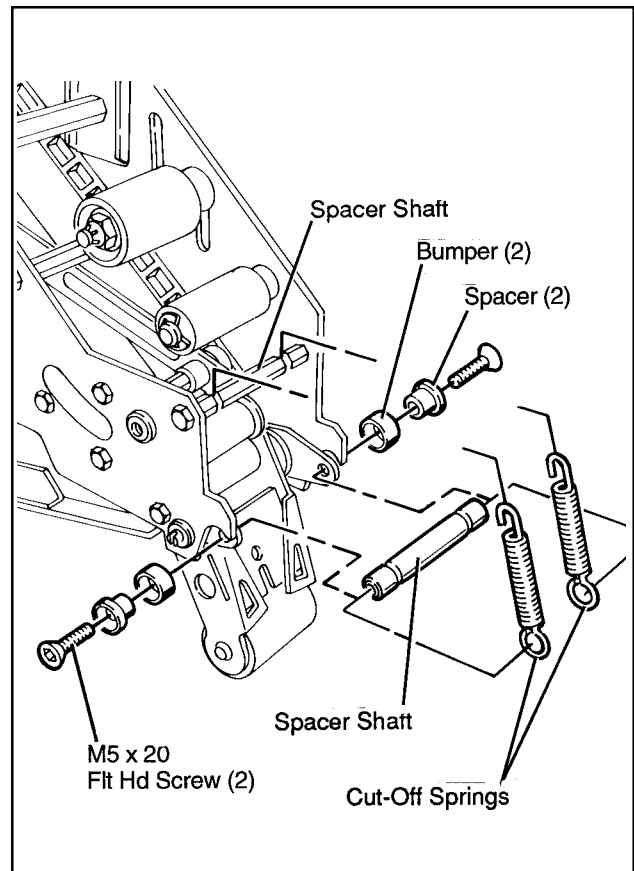

Figure 2-4
1. Remove the two cut-off springs from the spacer shafts using a needle nose pliers. Figure 2-4.
2. Use a 3 mm hex wrench and remove the two M5 x 20 flat head screws, spacers and bumpers from the cut-off bracket spacer shaft. Figure 2-4.